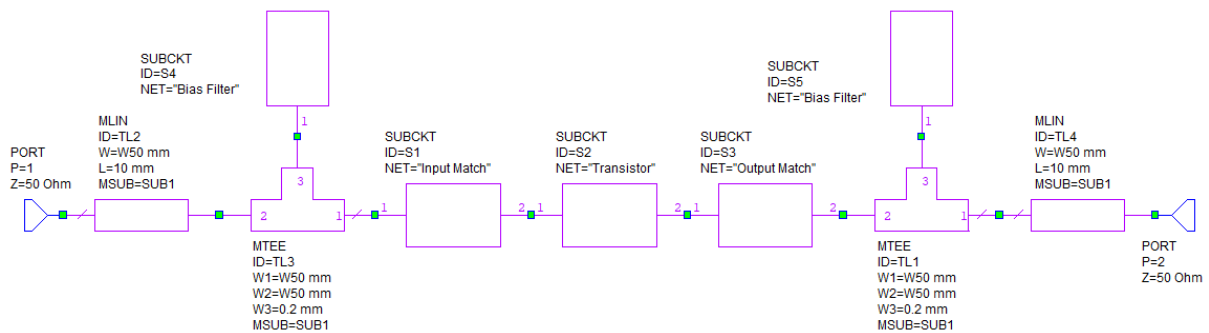

Fig. 12 Schematic of the amplifier including both bias circuits and connecting 50  $\Omega$  lines.
- Add biasing circuits to the Amplifier schematic. Use the MTEE discontinuity models and add 10-mm-long 50  $\Omega$  microstrip line sections (to connectors) at both sides as shown in Fig. 12.